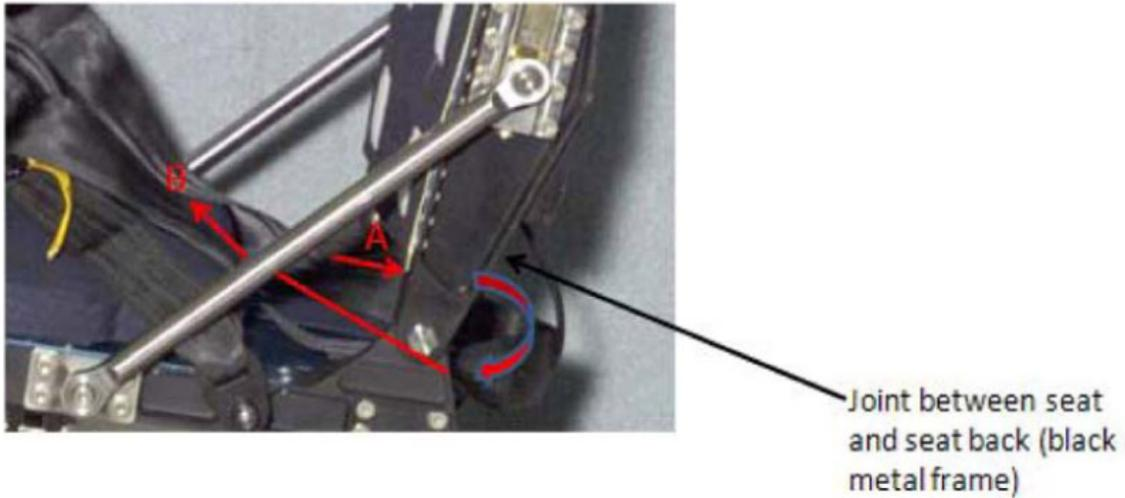

Figure 4. Lap Belt and Seat Back Joint Illustration.
- 3.1 Lengthen lap belt straps and wrap lap belt straps around the joint between the seat and the seat back (black metal frame) by wrapping from the inside of the frame then around the joint (point A to point B in Figure 4).
- 3.1.1 Ensure that lap belt adjustment is accessible and possible. Refer to Figures 4 and 5.